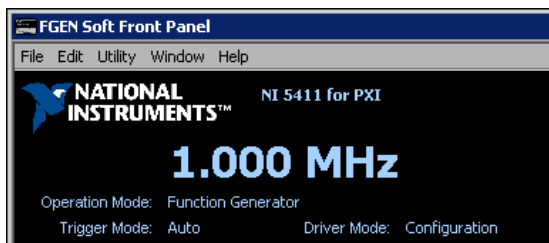

Figure 4. FGEN SFP Display with the NI PXI-5411 Selected
4. Verify that the device appears on the FGEN SFP display, as shown in Figure 4.